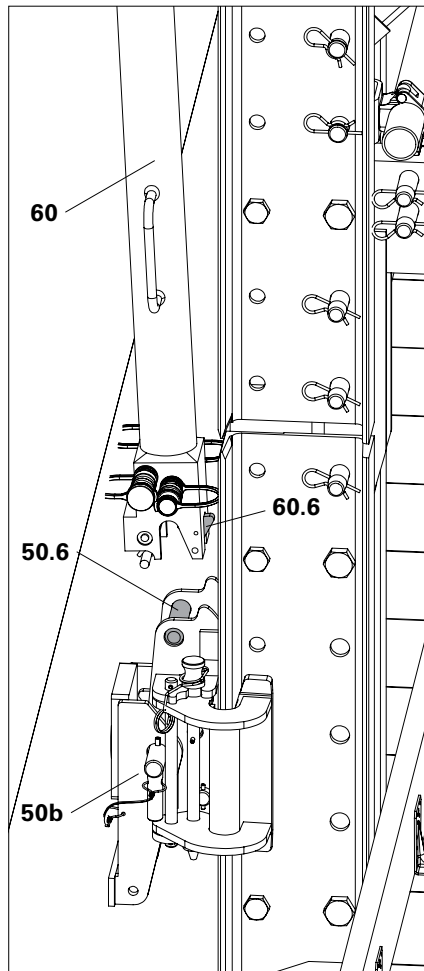

Fig. D7.04
1. Position the Climbing Device RCS (**60**) on the bolts (**50.6**) of the middle Climbing Shoe (**50b**) and engage. The Climbing Device is pressed against the Climbing Rail through spring force. Guide the claw into the Climbing Rail. (Fig. D7.04 + D7.05)